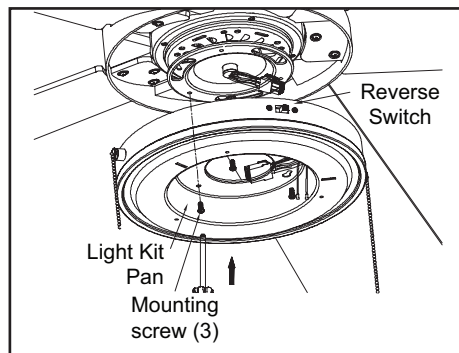

Figure 13
1. Loosen but do not remove two of three mounting screws from the fan motor assembly; Remove one mounting screw. (Figure 13)
2. Push the light kit pan up to the fan motor assembly so that the two loosened screw heads fit into the keyhole slots. Turn the light kit pan clockwise, tightened the screws. Re-install the screw that was removed in step 1 and tighten firmly. (Figure 13)
The fan shipped from the factory with the reversing switch positioned to circulate air downward. If airflow is desired in the opposite direction, turn your fan off and wait for the blades to stop turning, then slide the reversing switch (located at the side of light kit fan, refer to figure 13 on page 8) to opposite position, and turn fan on again. The fan blades will turn in the opposite direction and reverse airflow.